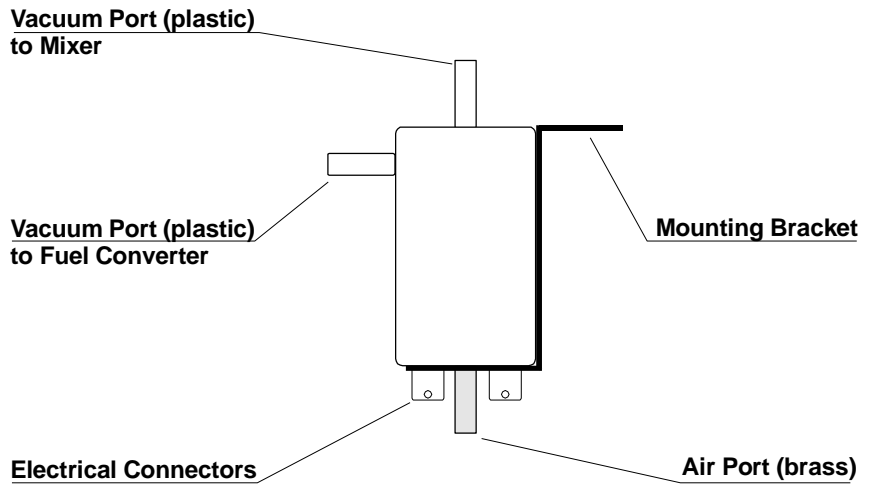

Figure 2. Solenoid Valve Ports
Install the foam filter on the air port of the solenoid valve (it is the brass port of the solenoid located in the proximity to the electrical connections, as shown in Figure 2). Making sure that the port opening is not blocked, place a drop of adhesive on the brass port and place the foam filter over the port.
This step involves (1) the installation of the vacuum elbow into the fuel regulator, (2) connecting the elbow with the solenoid valve, (3) installing the vacuum fitting in the mixer and (4) connecting the solenoid valve with the mixer vacuum. Solenoid valve ports are referenced in Figure 2.
(1) Locate the atmospheric vent on the regulator. It may be necessary to modify the vent opening to accept the 1/8 N.P.T. black elbow fitting. Position the vacuum elbow so that the orifice is aimed downward to allow moisture which may accumulate in the line to drain.
(2) Cut sufficient length of the flexible vacuum hose and connect the vacuum elbow with the plastic vacuum port on the side of the solenoid valve (see Figure 2).
Cut sufficient length of the flexible vacuum hose and connect the vacuum fitting in the mixer with the remaining plastic vacuum port of the solenoid valve (see Figure 2).